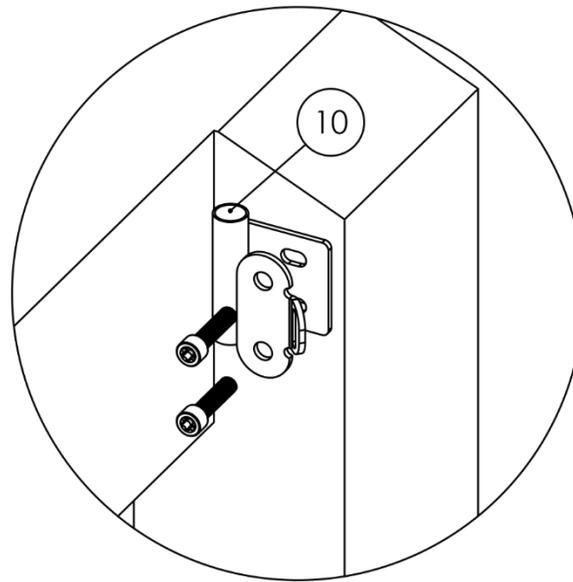

Figure 10
6. **Install the Safety Bolt Bracket and Safety Bolt.** The purpose of the Safety Bolt (Item No. 9) and its Bracket (Item No. 10) is to ensure that the back end of the Base Rails (Item No. 1) cannot slide into the truck's bed. The Safety Bolt Bracket, which receives and retains the bolt, mounts behind the upper tie-downs found at the rear of your truck's bed. To install, remove the tie-down screws using the T-50 3/8" Drive Bit Socket (Item No. 16) and re-install with the Bracket placed behind it – as shown in Figure 10. Make sure to arrange the Bracket in a way that when the Safety Bolt is inserted, its snap button pops out below the hollow cylinder and that a finger of space exists between the bedrail and the top of the Safety Bolt.